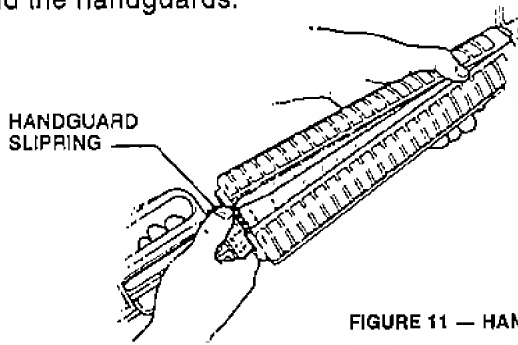

FIGURE 11 — HANDGUARD REMOVAL
13. Handguard Removal. Pull back on handguard slip-ring until it is clear of both sections of handguards and remove them. (See Figure 11.)